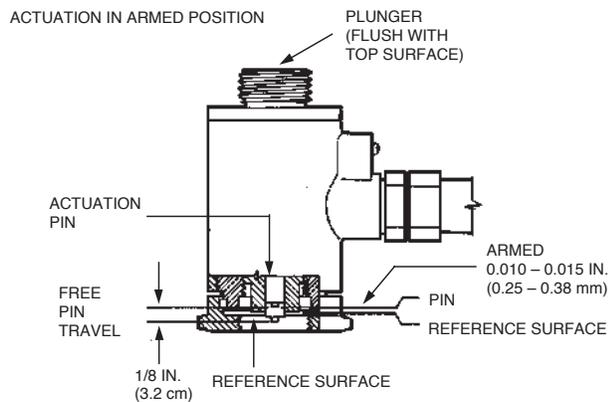

FIGURE 8-11
- a. The actuator is armed if the following conditions exist: See Figure 8-11.